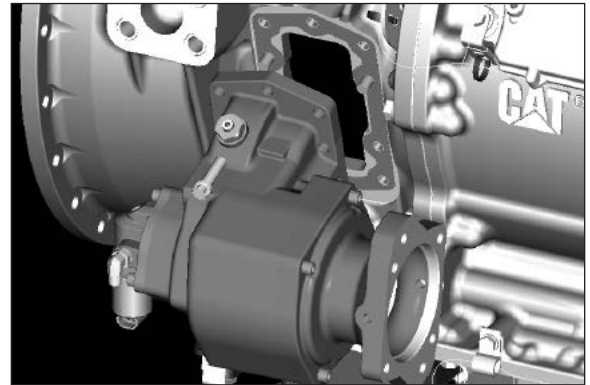

Figure 32
5. Position the PTO and secure it with the top cap screw provided (**Fig. 32**).